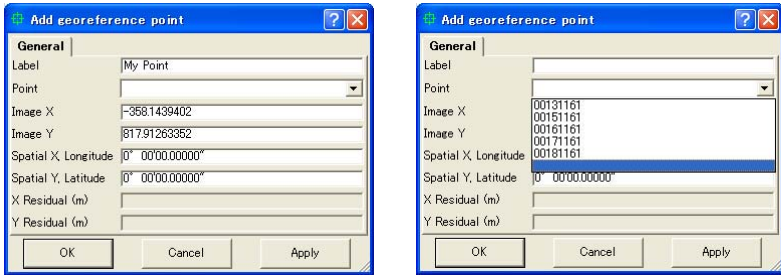

Figure 2-54. Add georeference Point Dialog Box
- Using the ‘add point’ cursor, identify and left-click the desired point on the image. Type in a name in the *Label* field and the coordinates on the current coordinate system or select the corresponding photo point from the list (this list displays all job’s points) on the *Add georeference point* dialog box (Figure 2-54). It is possible to edit the label name in the corresponding field of this dialog box. The project point name is not editable. By default, for a point selected from the list, the label name and project point name are the same.